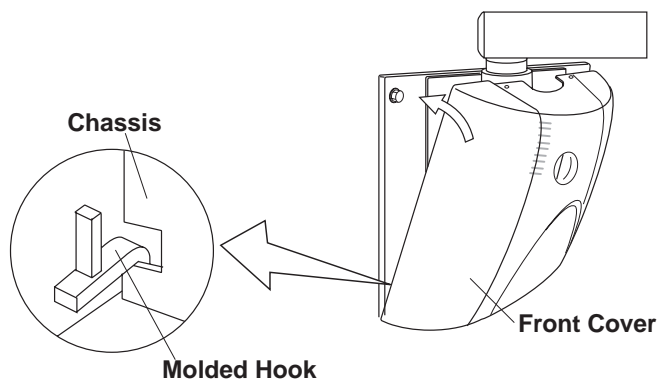

Fig.3-9A Attaching Front Cover-1
- The front cover has molded hooks on the inside that attach to notches in the metal chassis. Hook the molded hooks on the front cover onto the chassis notches, and then push the top side toward the wall to close. (Fig.3-9A)